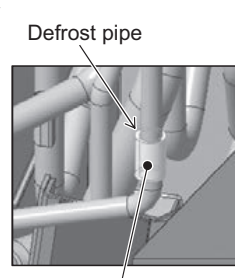

Figure 5
- (5) Remove the top attachment that connects the main control box to the inverter control box by unscrewing the 2 screws. (See Figure 5.)